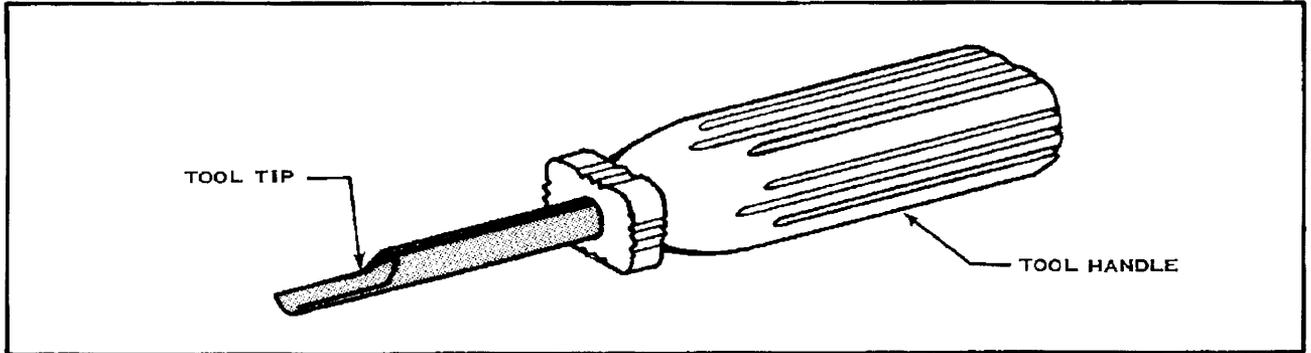

Fig. 1
1. This Tool is used to remove A-MP MATE-N-LOK Contacts from their Housings. See Figure 1. Read these instructions carefully before using the Tool.